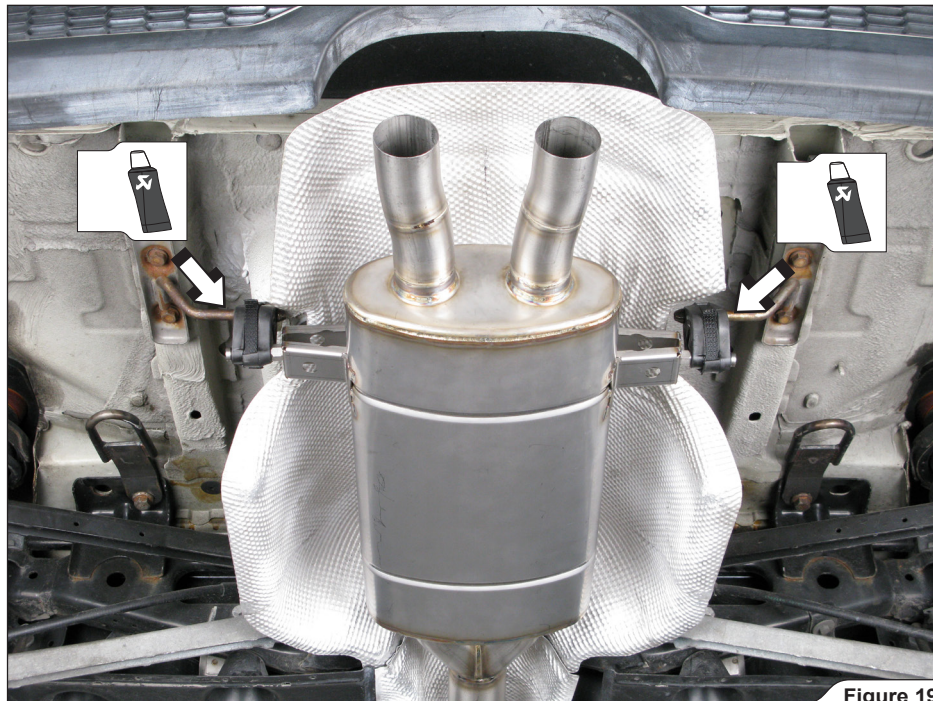

Figure 19
8. **For Evolution:** hang the muffler on stock rubber brackets as shown (Figure 19).